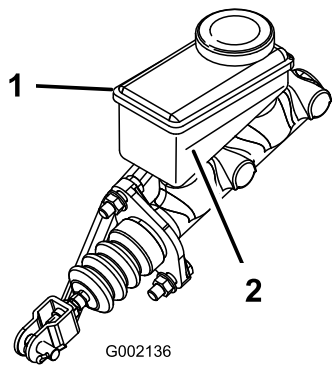

Figure 52
3. Look at the outline of the fluid level at the side of the reservoir (Figure 52).
- B. Add DOT 3 brake fluid to the reservoir until the fluid level is above the Minimum line (Figure 52).